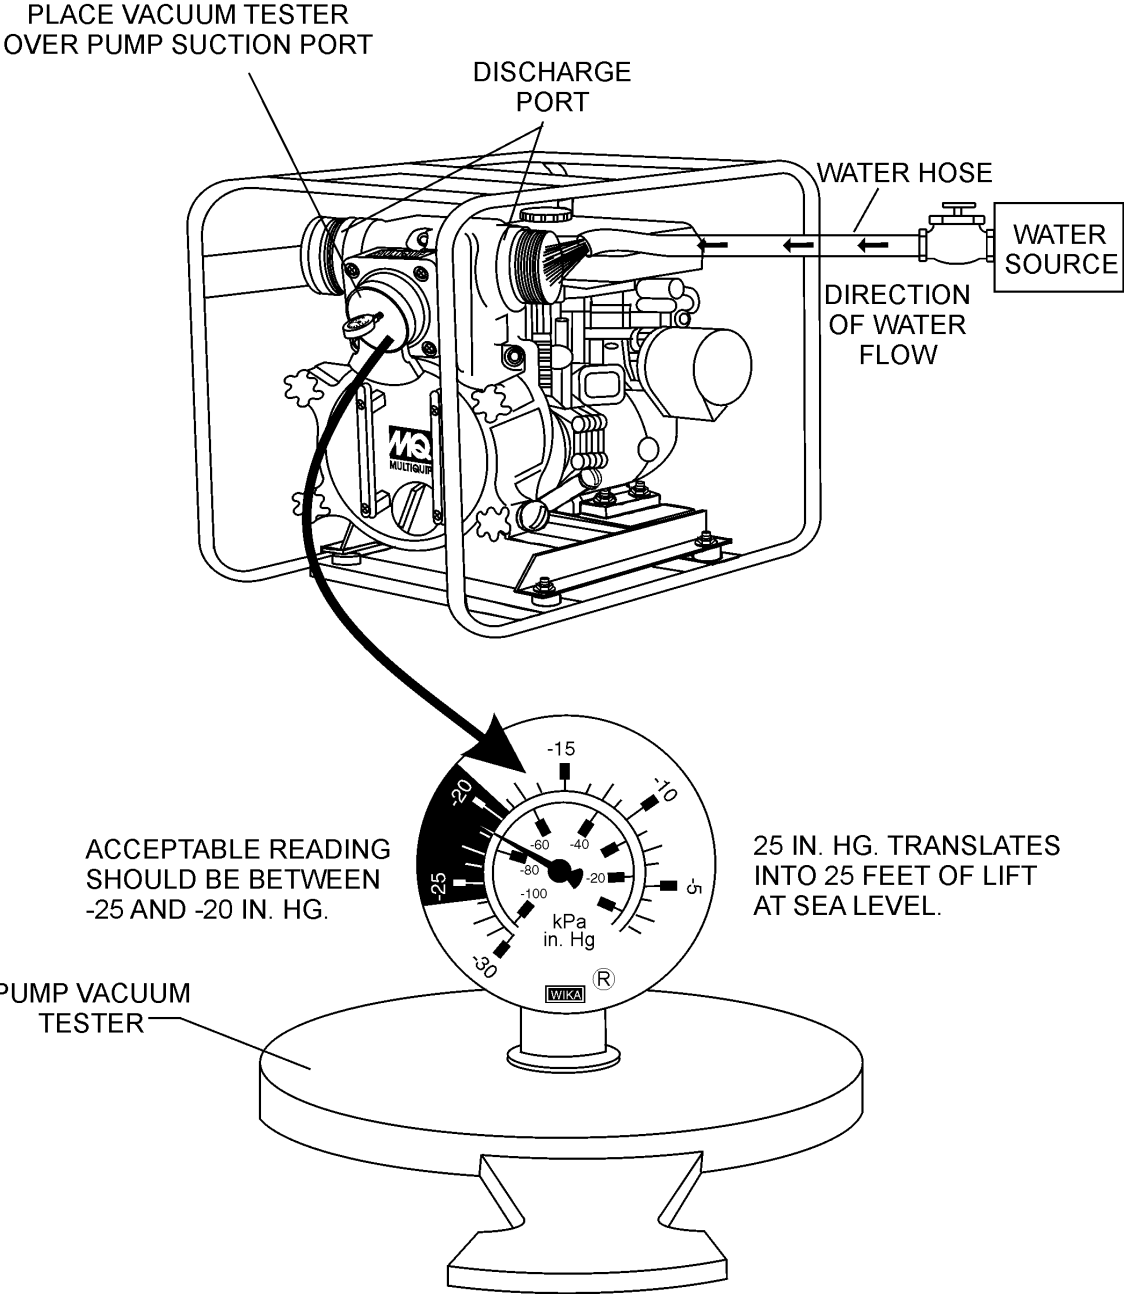

Figure 11. Pump Vacuum Tester
3. As shown in Figure 11, place a water hose inside the discharge opening of the pump, and turn on the water. This flow of water into the discharge opening will prevent the pump from running dry.
4. Place the Pump Vacuum Tester (P/N 7000030) over the pump suction (inlet) opening (Figure 11) with the vacuum gauge facing upwards. It may be necessary to apply a small amount of water around the rubber seal of the vacuum tester to make a good suction fit.